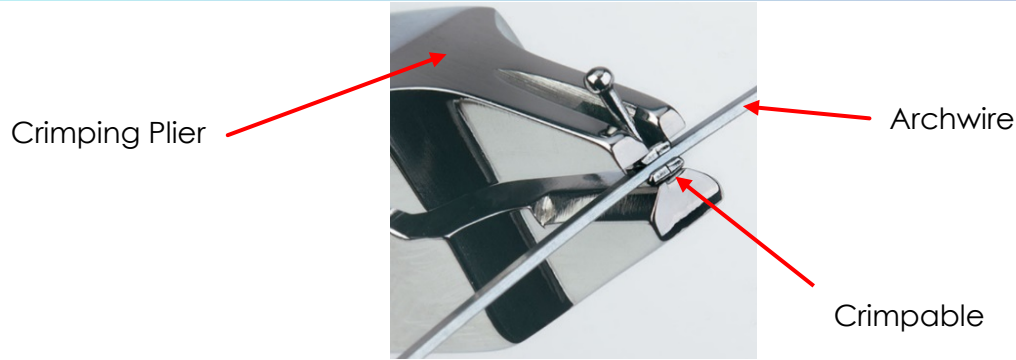

Fig.1
- Place Crimpable Ball Hook at the desired location on archwire as shown in Fig.1